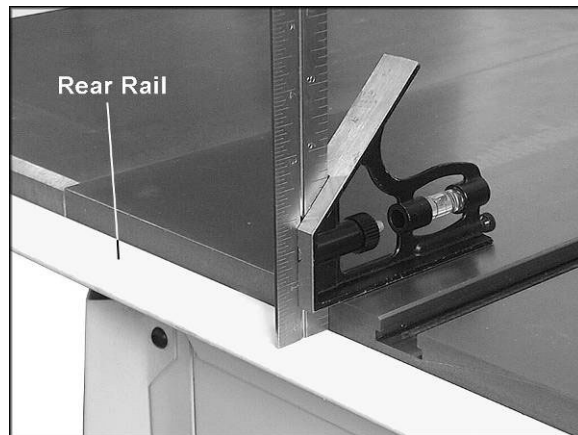

Figure 4
4. The rear rail *must* be parallel to table top to ensure proper fence operation. Measure distance from rail to table surface at several points along table. A sliding combination square is handy for this, as shown in Figure 4. All measurements should be the same. There is slight adjustment in the rail holes to allow for achieving parallelism with the table surface.